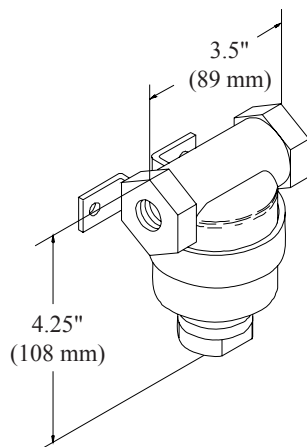

Figure 5-7 - Glue Filter
1. Install the small in-line glue filter (Figure 5-7) between the shutoff valve (located at the end of the drop line) and the fluid regulator.